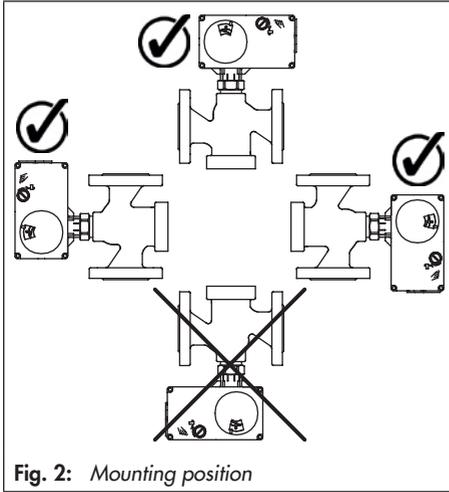

Fig. 2: Mounting position
- The control valve can be installed in the pipeline in any desired position. However, a suspended mounting position of the actuator is not permissible (see Fig. 2).